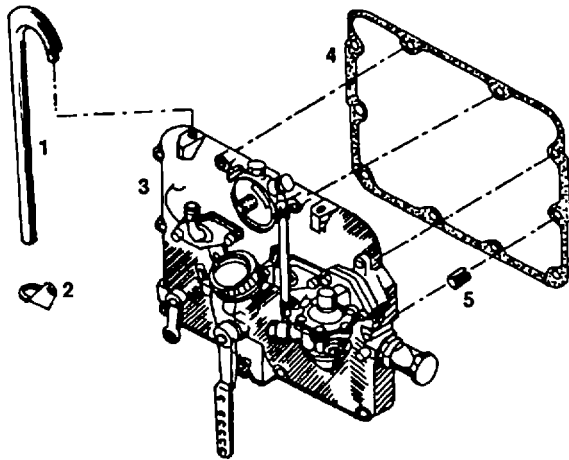

Figure 4-53. Deutz Fuel Injection Pump
- a. Remove the screws securing injection pump (3) to the engine.
- b. Separate the injection pump from the gasket and discard gasket (4, figure 4-53).
- c. Apply grease to a new gasket and place in position on the injection pump cover. Reinstall clamping bushings (5). Turn the crankshaft so that the fuel cams face in the direction of the crankcase. Mount the fuel injection pump cover so that the gears are in mesh.
- e. Connect breather pipe (1) and bracket (2) and install with jointing compound in the injection pump cover. Install the oil dipstick fitted with a new rubber O-seal.